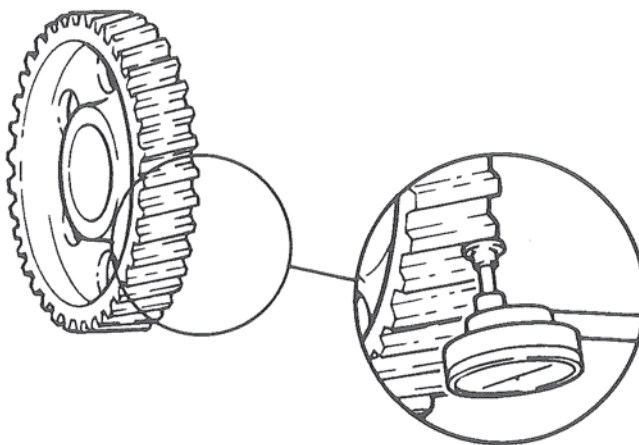

Figure 46. Measuring Gear Backlash.
3. Mount a dial indicator on front of engine and position gauge at right angles to idler gear tooth. Figure 46.